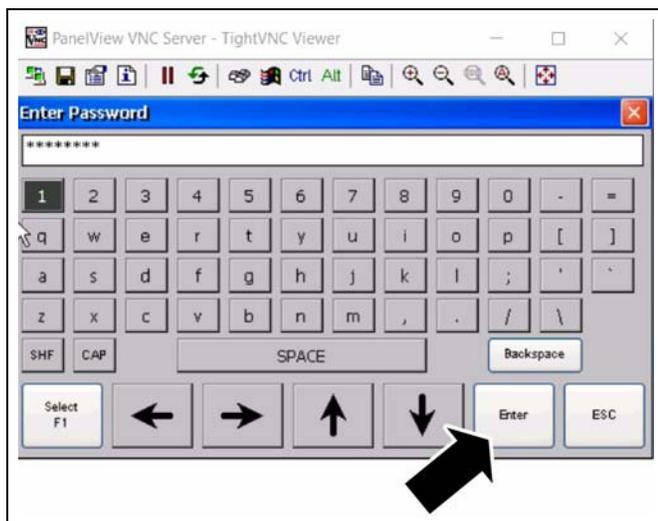
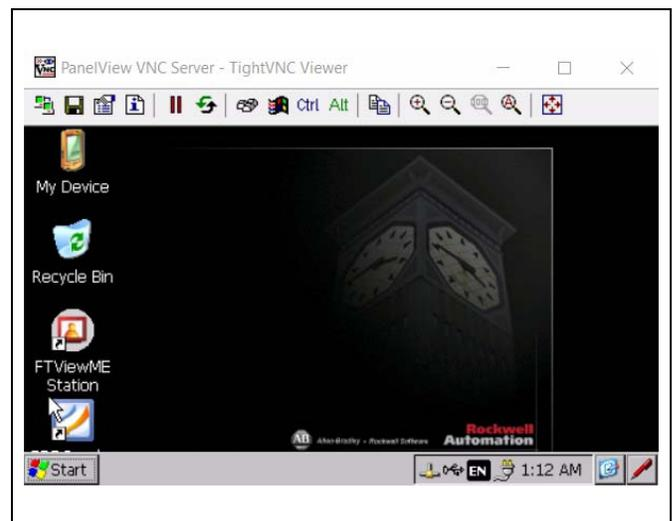

Figure 3F
Figure 3G
4. Press the Enter key. (See Figure 3F.) You will exit to the Windows CE desktop. (See Figure 3G.)